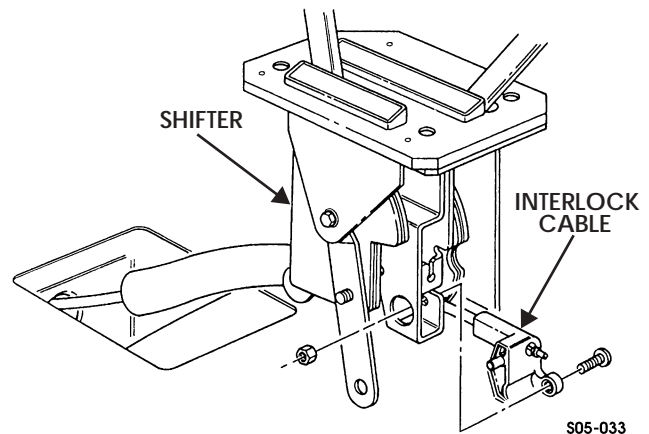

Figure 5-91: Interlock Cable and Shifter
9. Remove nut, screw and interlock cable from shifter (Figure 5-91).
1. Feed interlock cable end through boot and install on shifter housing assembly (Figure 5-91).
4. Cut tie straps, if present, and work boot off neutral start switch, backup light switch, and shift indicator leads, and down interlock cable, if present (Figures 5-91 and 5-92).